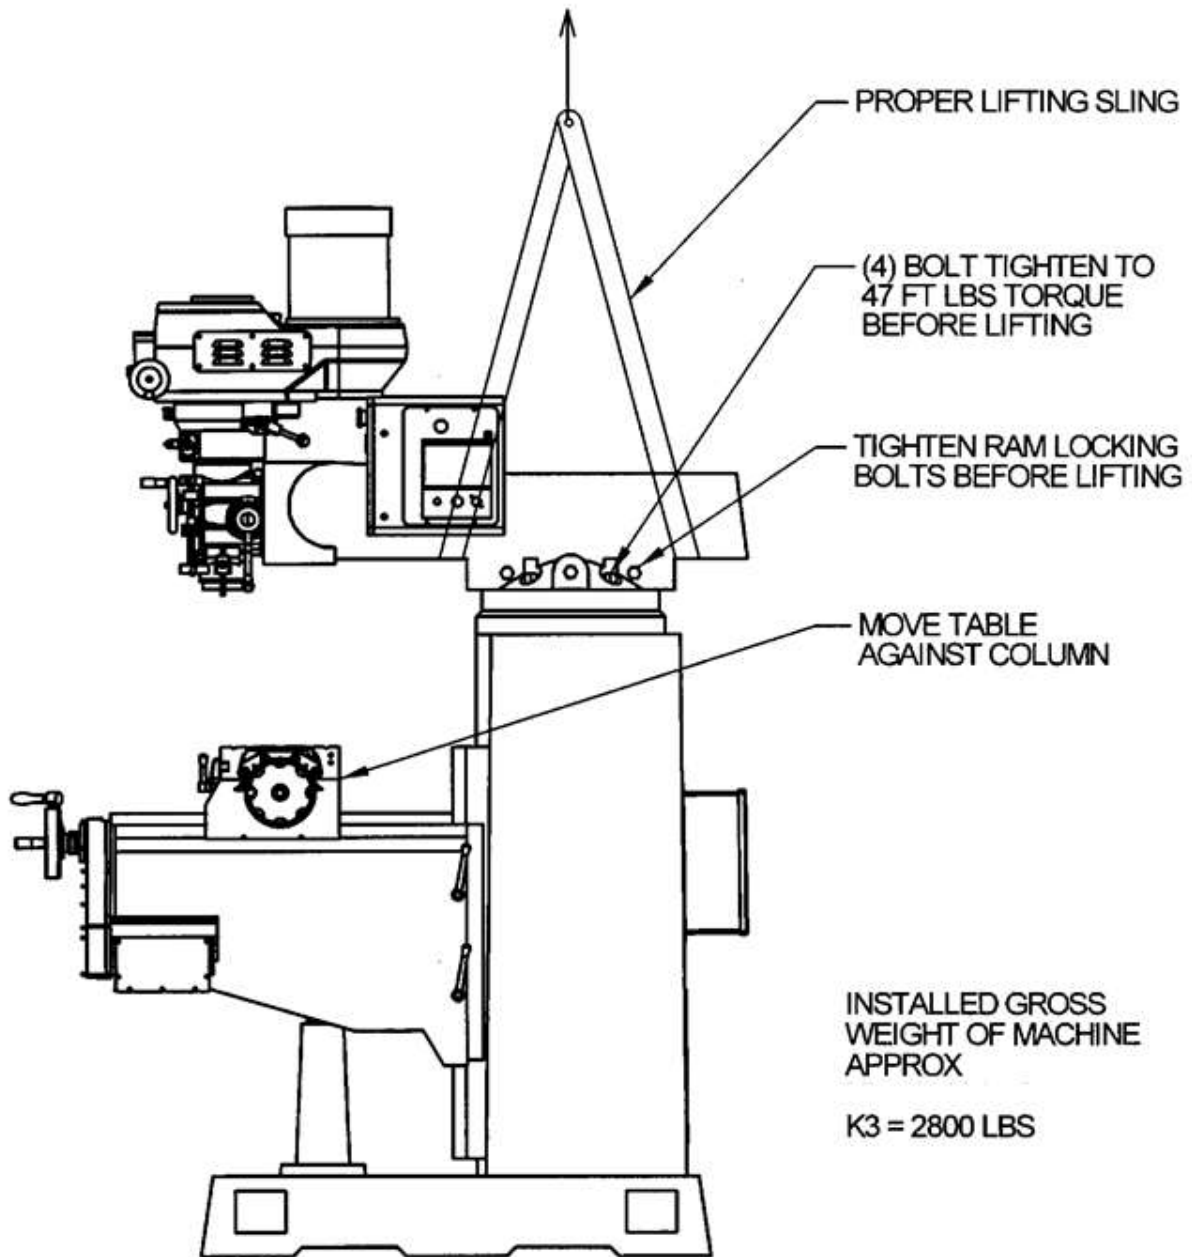

Figure 5 - Lifting the Machine
(See Figure 5 to Prepare the Mill before Lifting):
1. Using a steel cable with protective sleeving (min 3/4" diameter) or a 3-ton sling, position sling loops on machine as shown in Figure 5.